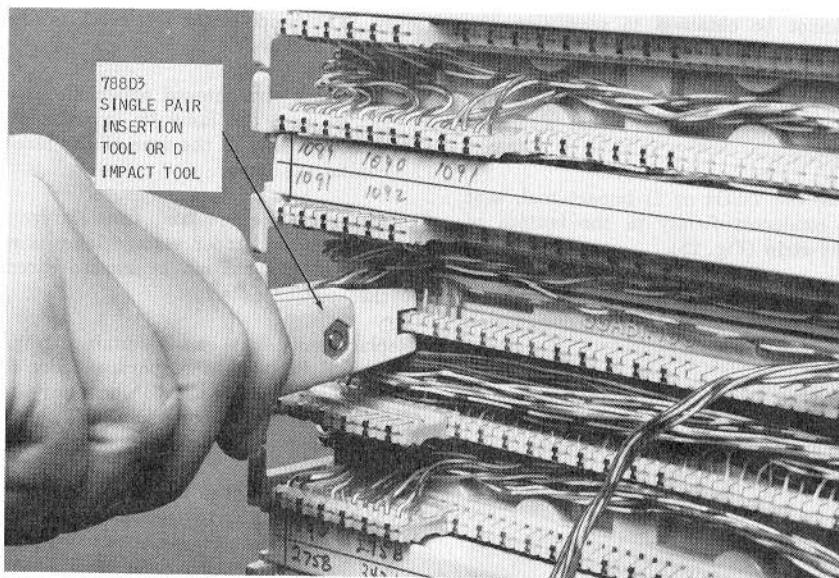

Fig. 28—Seating Conductors With Single-Pair Insertion Tool
- (b) Using the 788D4 or D impact tool, seat the conductor firmly in the bottom of the index strip (Fig. 28).
- (6) Place a new 88-type connecting block as outlined in Part 3 and replace the designation strip.
- (7) Replace the tagged cross-connect wires in their original position as outlined in Part 3 after cutting off old contact part of wire.